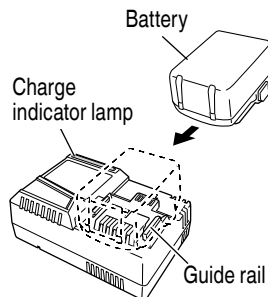

Fig. 7
2. Insert the battery to the battery charger. Insert the battery into the battery charger as shown in Fig. 7.